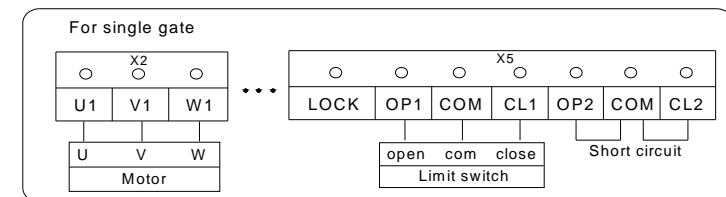

Fig.21
**Note:** Use operator with single gate, connect motor to 'U1', 'V1', 'W1', connect limit switch to 'OP1', 'COM', 'CL1', it is important to short the 'OP2' and 'COM', 'CL2' and 'COM' terminal with the jumper wires. See Fig.21.